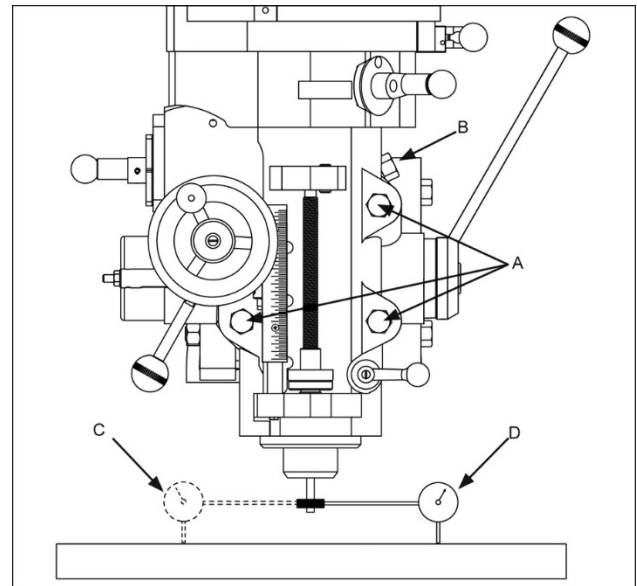

Figure 18
2. Turn worm nut (B, Figure 18) to tilt head left or right as required. Use scale on ram adapter to set desired angle.
6. Set up a dial indicator in a collet and secure using the draw bar (refer to Figure 18).
- c. Set up a dial indicator in a collet and secure using the draw bar (refer to Figure 18).